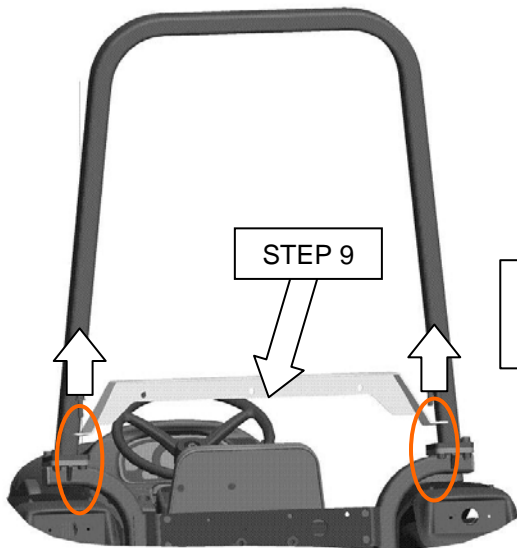

Figure 5
9. Place "I" style mount bracket on top of ROPS pads. See Figure 5.